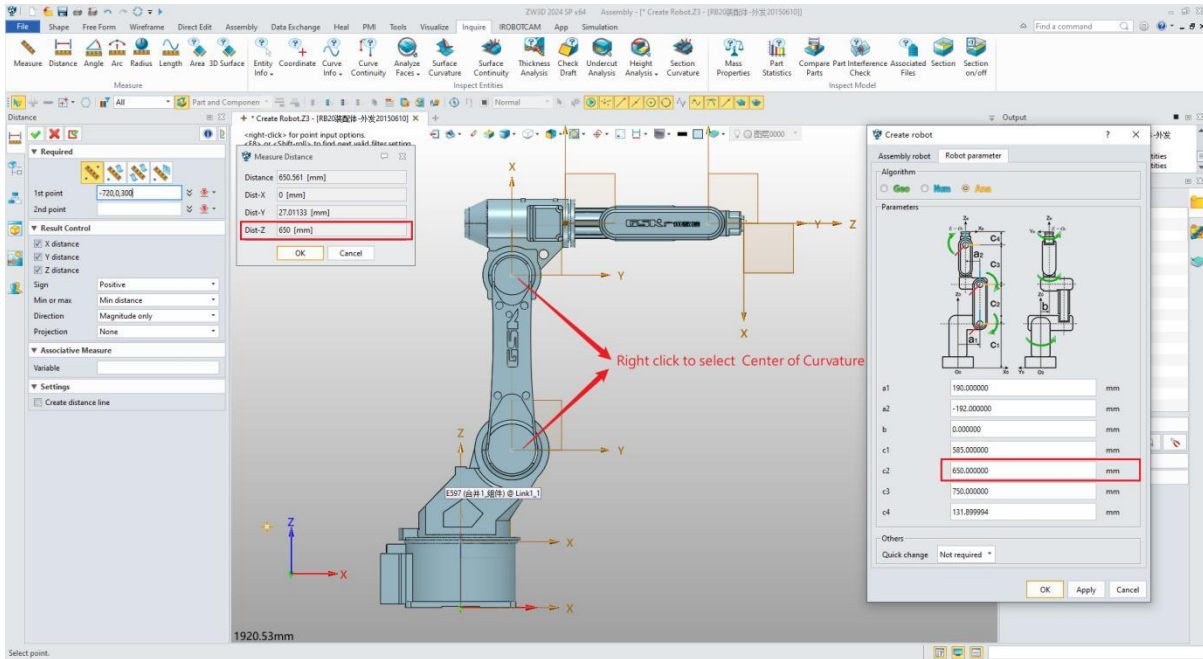

Figure 8-24: Robot parameter measurement
- Enter the corresponding values in the "Add Robot" window. (Figure 8-24)